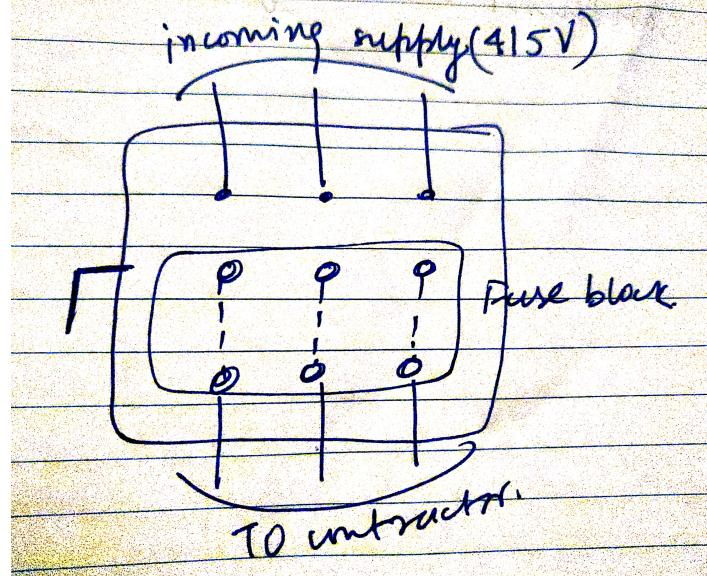
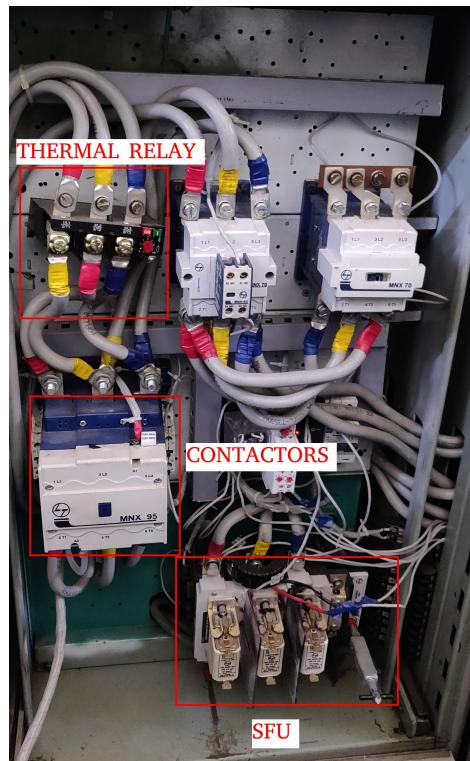

Figure 1.5: Schematic diagram of a Switch Fuse Unit
Figure 1.7: Inside view of a panel showing its safety features
- Inside any panel, the electrical power goes through the following equipment-s in order:- SFU (415 V), Fuse, Contactor(125 A rating), Thermal Relay (only for over current). See Fig 1.5.
- In the panels the following protection measures are present **Switch to Fuse**(Now replaced by **SFU** - Switch Fuse Unit See Fig 1.5) to **Contactor** to **Thermal Relay** to **Equipment**. The practical example of this can be seen in Fig 1.7.